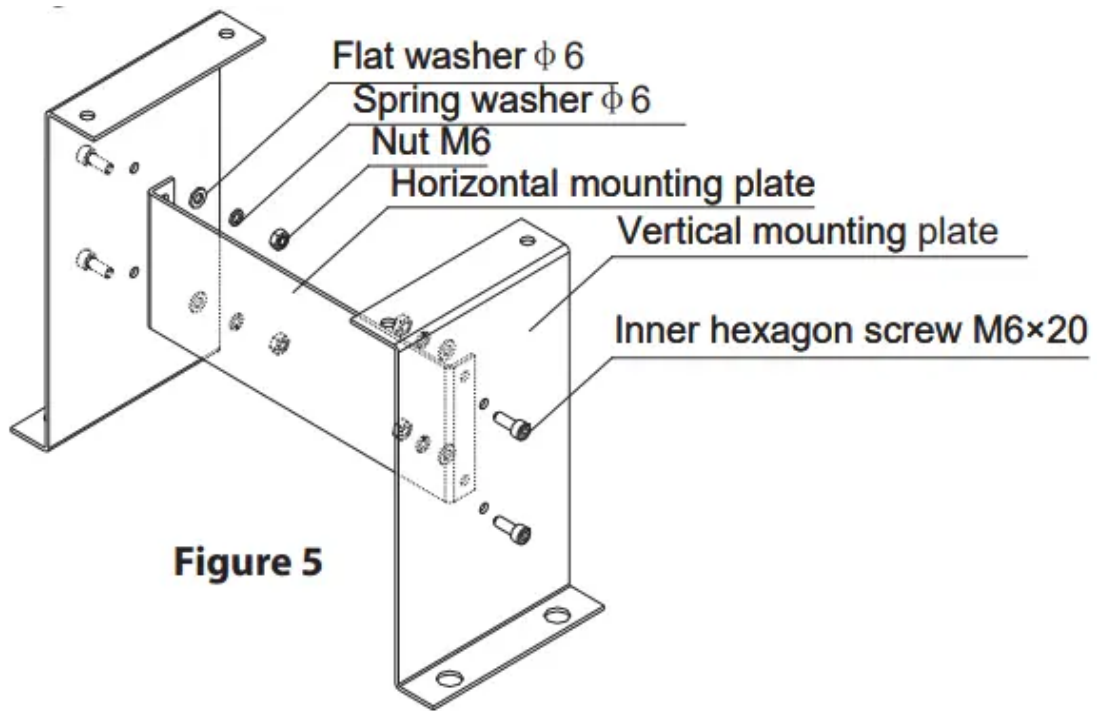

Figure 5
- If you select the detachable mounting base, please assemble the base first as shown in Figure 5;